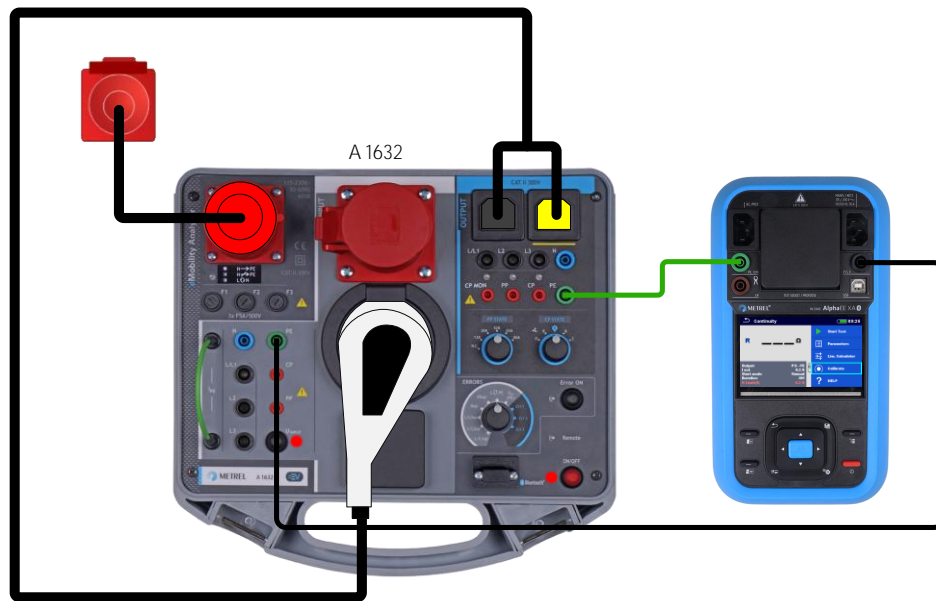

Figure 9_Test leads compensation
- Connect test leads according to the connection diagram Figure 9_Test leads compensation,